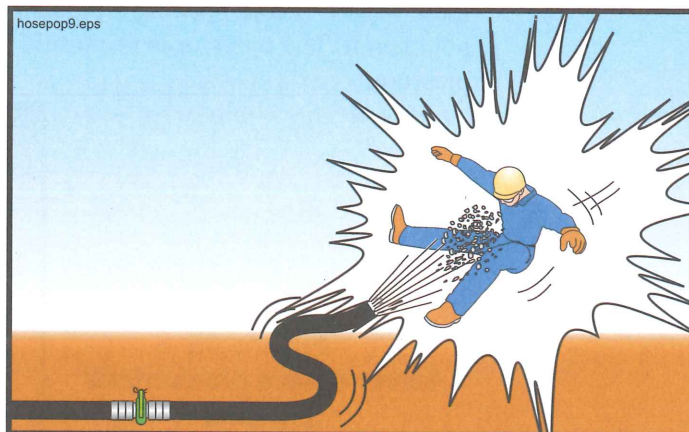

Figure 43
⚠ WARNING Do not let the concrete level in the hopper become low! If air is sucked into the material cylinders, the pump will compress the air. Compressed air always poses a hazard as it is expelled from the hopper or the delivery pipeline (Figure 43). If air is taken into the material cylinders, take the following steps to minimize the hazard:
3. Persons standing at the discharge end or near the delivery line must be warned to move away until all of the air has been purged. Warn them to stay a reasonable and prudent distance beyond the reach of the end hose or point of discharge (Figure 43).
⚠ WARNING When initially priming the delivery system, when restarting after moving, when restarting after adding or removing hoses, or whenever air has been introduced into the line, warn everyone to stay away from the discharge until concrete runs steadily and there is no movement of the delivery system. Personnel should stay back a reasonable and prudent distance beyond the reach of the end hose or point of discharge (Figure 43). Air will be in the line when first starting, when restarting after moving, when a blockage has been successfully removed by rocking the concrete, and after the line has been taken apart or opened for any reason.